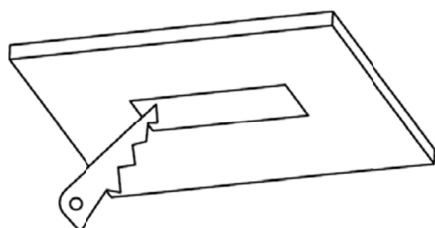

Figure 1
1. Select the corresponding ceiling opening size according to the specifications and models of the lighting fixtures, and pre open the installation holes for the lighting fixtures on the ceiling (as shown in Figure 1);